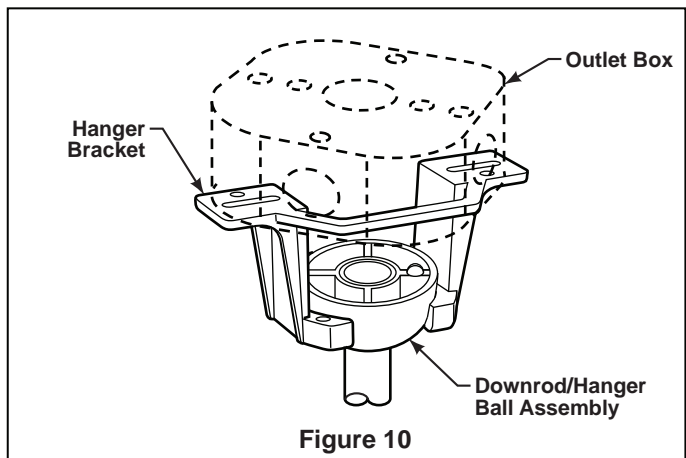

Figure 10
- 2. Carefully lift the fan and seat the downrod/hanger ball assembly on the hanger bracket that was just attached to the outlet box. Be sure the groove in the ball is lined up with tab on the hanger bracket. (Figure 10)